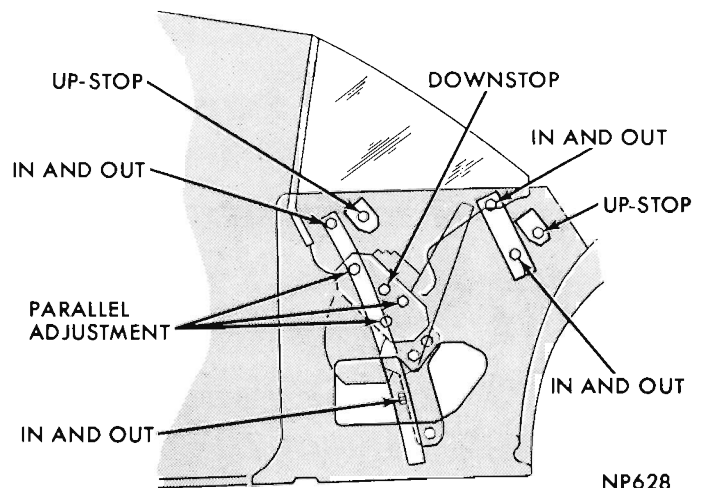
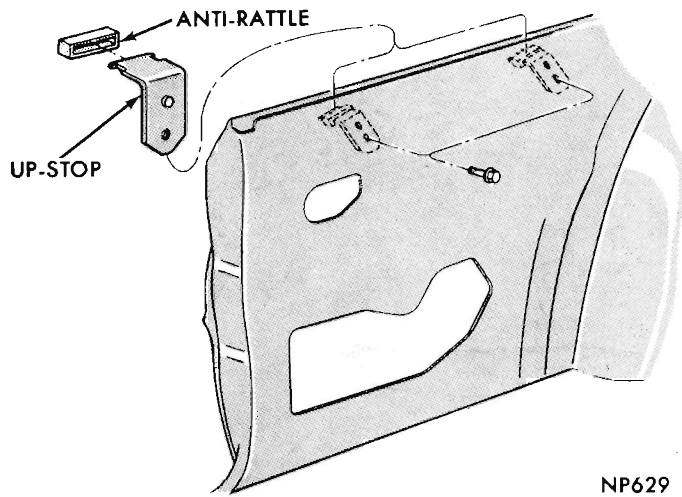
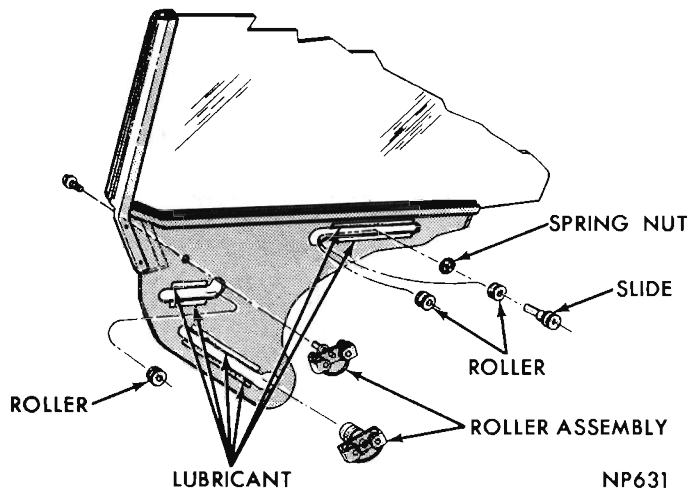

Fig. 41—Quarter Window Adjustments—Hardtop
Fig. 42—Quarter Window Up-Stops—Hardtop
Fig. 44—Quarter Glass Assembly—Hardtop
- (1) Raise quarter window 2 inches above belt line.
- (2) Adjust top of front and rear tracks (Fig. 41) until glass just touches the outer belt weatherstrip and tighten nuts.
- (3) Raise window to the upper weatherstrip and adjust regulator so glass at front contacts weatherstrip and is parallel to the weatherstrip bead. Tighten regulator screws.
- (4) Adjust bottom of front and rear tracks until upper edge of glass seals against roof weatherstrip. Tighten nut on rear track only.
- (5) Tighten adjusting screw on bottom of front track to lower brace.
- (6) Position front and rear up-stops (Fig. 42) to glass lower frame stops and tighten screws.
- (7) Adjust regulator down stop (Fig. 41) so glass contacts outer weatherstrip lightly for full length.
- (2) Remove up-stops from lower frame (Fig. 42).
- (3) Remove glass assembly from door.
- (4) Remove slide and roller from glass frame rear track and roller assemblies from tracks in front section (Fig. 44).